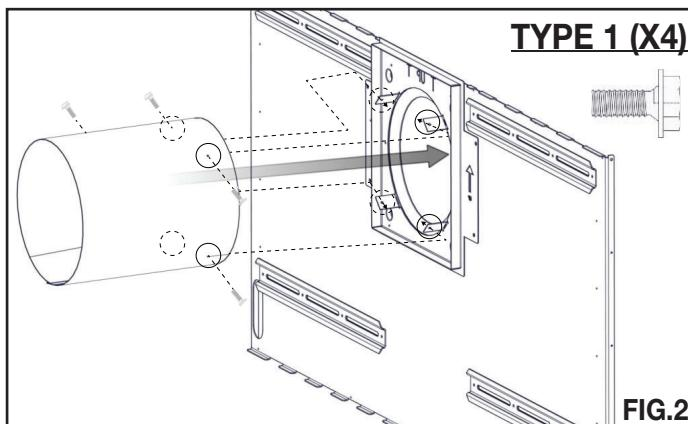

FIG.2
- E. Bend the four tabs on the firestop spacer outwards. Slide the vent shield into the firestop spacer aligning the holes within the tabs and secure. (**FIG. 2**)
- F. Look through slotted holes on the wall mounting plate for pre-marked mounting locations and secure wall mounting plate using a minimum of one fastener per corner (not supplied). (**FIG. 2**)